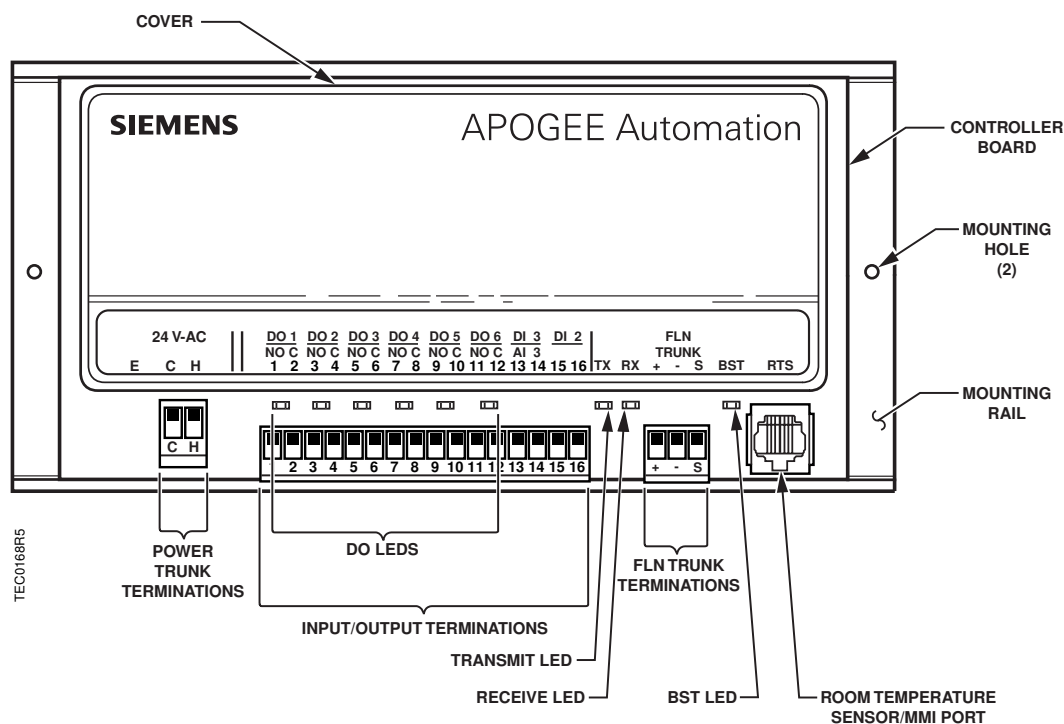

Figure 1. Unit Conditioner Controller — Electronic Output.
1. Secure the mounting rail (Figure 1) in the controller's desired location.
6. Plug the room temperature sensor cable into the RTS port (Figure 1).